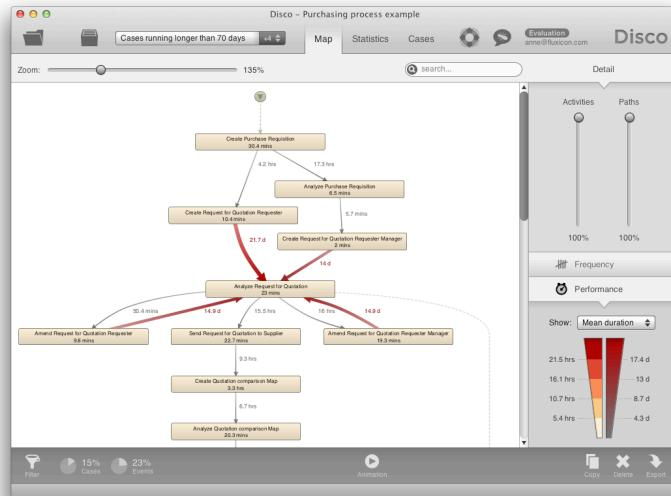

Fig. 4.15. The *Mean duration* option displays the average execution times for each activity and the average idle times on each path.
- *Mean duration*. Alternatively, the average time spent within and between activities can be displayed. For example, in Figure 4.15 one can see that while the execution of activity *Amend Request for Quotation Requester* takes on average only 9.8 minutes, it creates a delay of, on average, 14.9 days afterwards.